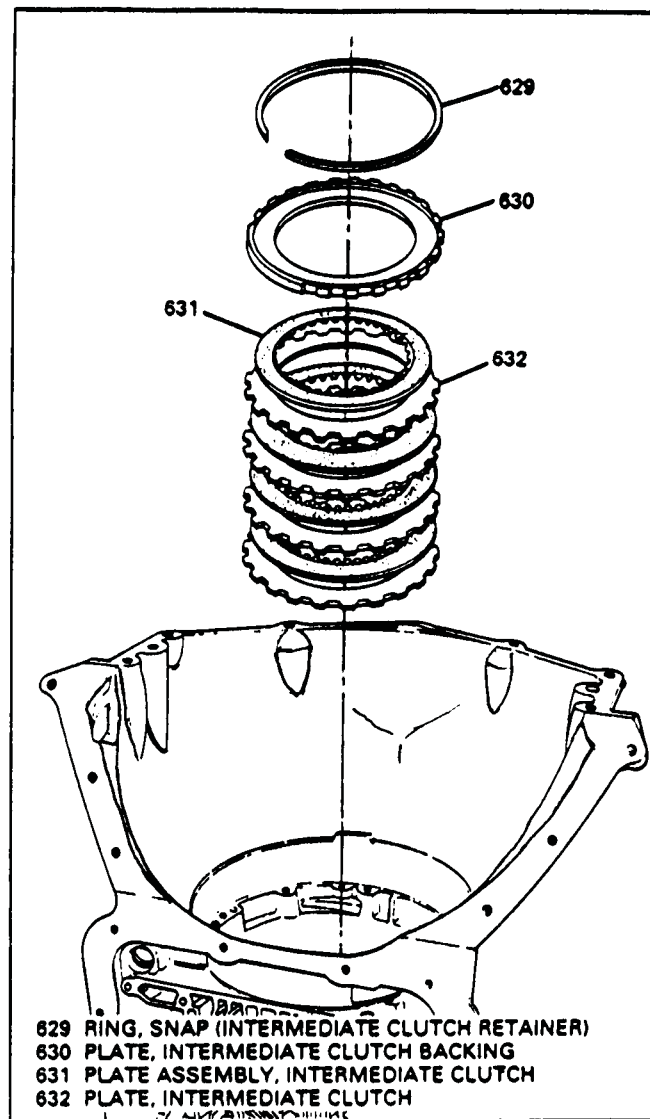

Figure 52
10. Remove the intermediate clutch backing plate (See Figure 52).
11. Remove the intermediate clutch plates both lined and steel, 4 of each, as shown in Figure 52.